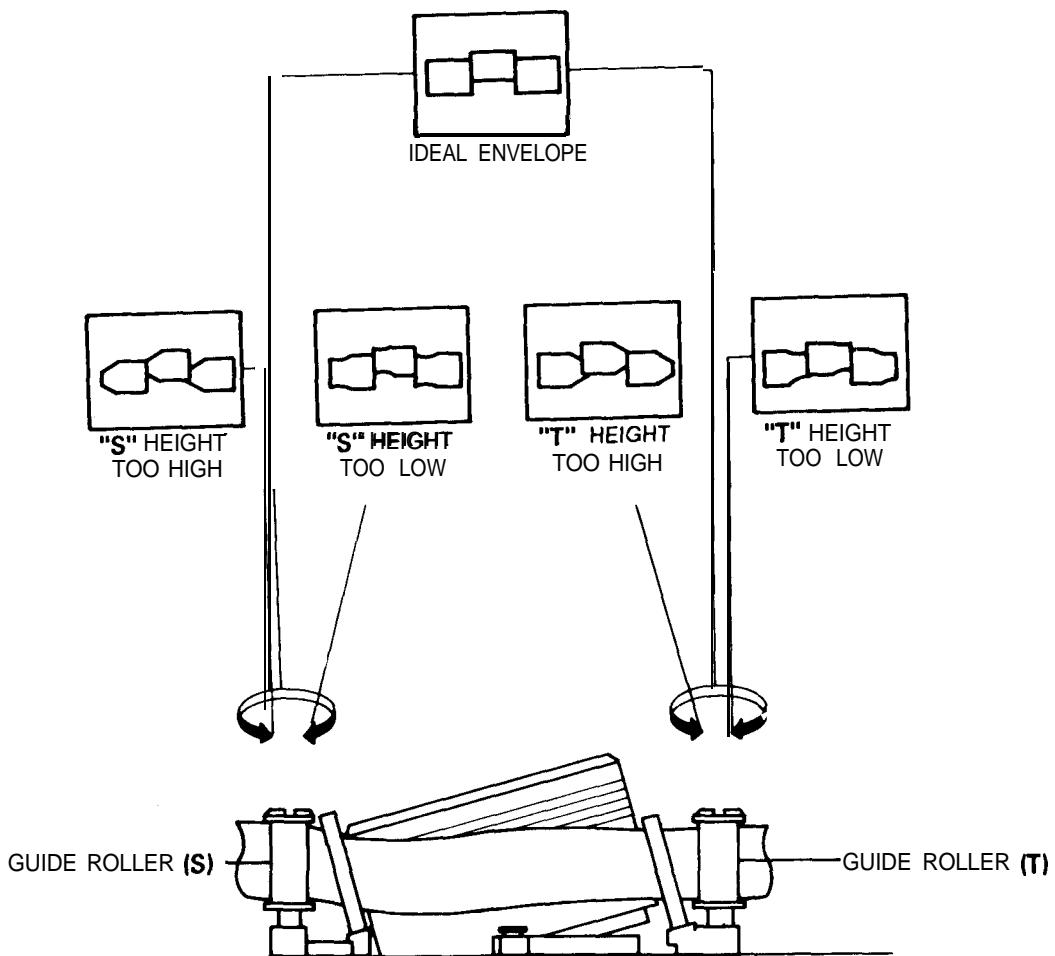

Fig. 13 S, T-Guide Roller Height Adjustments
9. Turn the guide roller heads with a flat head (□) screw driver to obtain flat video RF envelope as shown in Fig. 13.